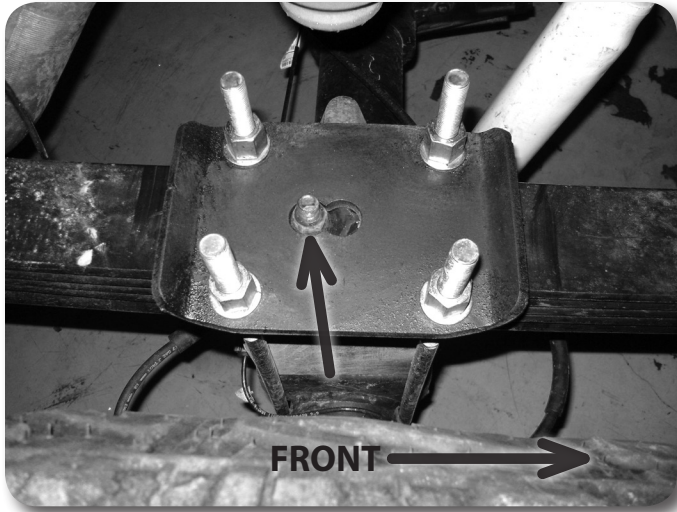

Figure 23
10. Raise the axle to engage the block spring alignment pins. Be certain the leaf center pin aligns with the REAR hole in the new lift block. Position the new u-bolt plate on the top of the spring over the center pin nut. Position the plate so the bolt pattern is shifted forward on the spring. **Figure 23** Fasten the entire assembly with the provided u-bolts, high nuts and washers. Snug but do not torque the u-bolts at this time.